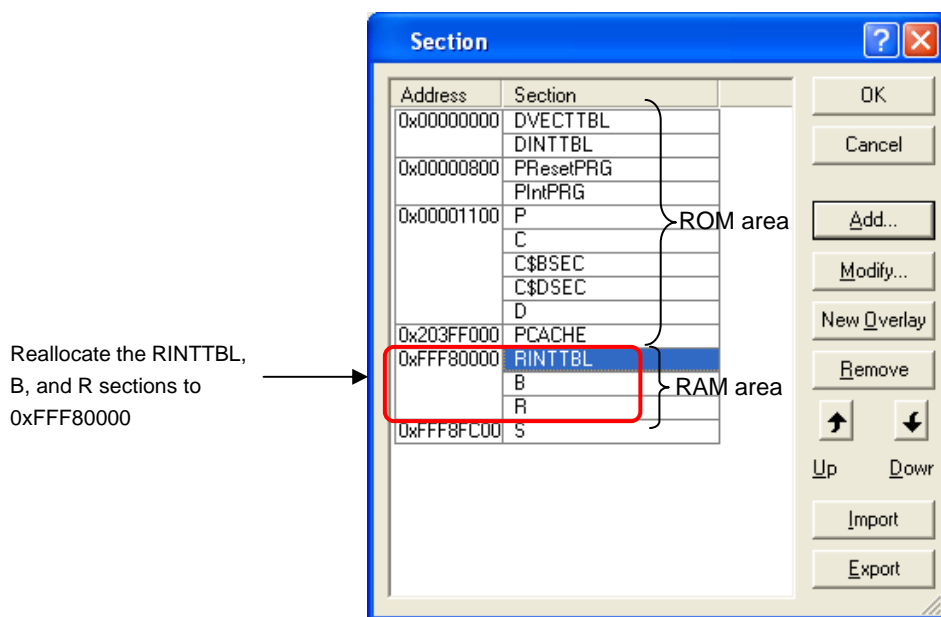

Figure 5.3.19 Change Section (1/3)
## (1) Set the RINTTBL section to the internal RAM area in [Section] dialog box as shown in Figure 5.3.19.